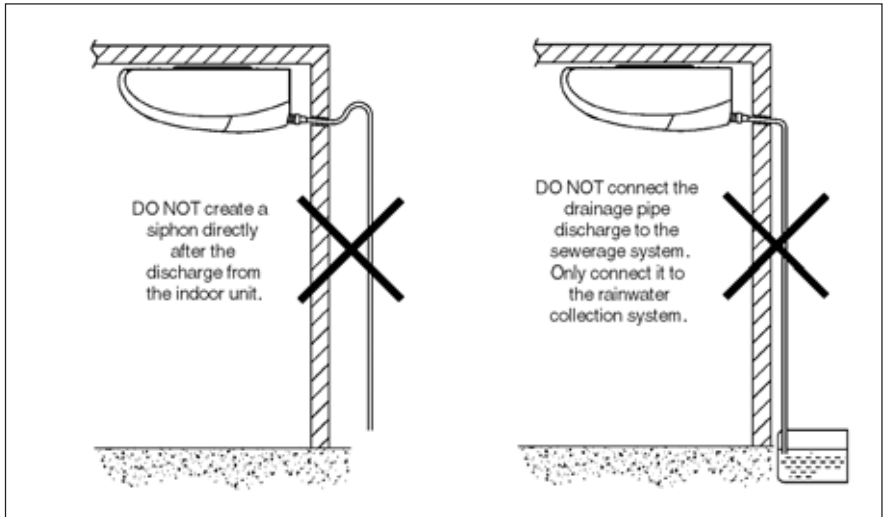

Fig. 15 - Inefficient drainage scenarios
- b) The unit uses gravity drainage. However, the drainage pipe must have a downward slope. Avoid the situation shown in Fig. 15.